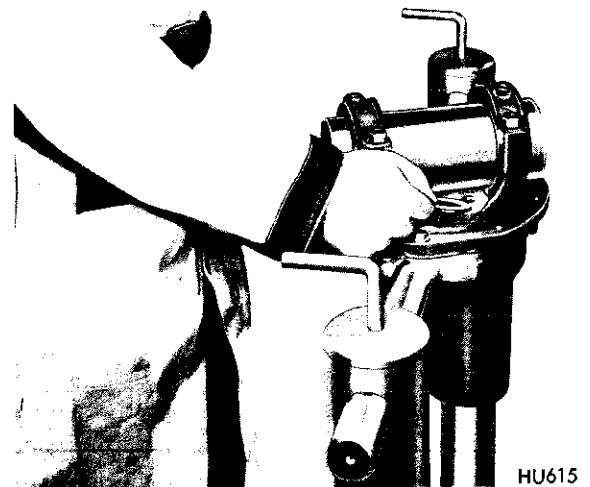

Fig. 29—Determining Spacer Thickness
(3) Select the washer that will fit between the tool gauge block and arbor (Fig. 29). The fit must be snug